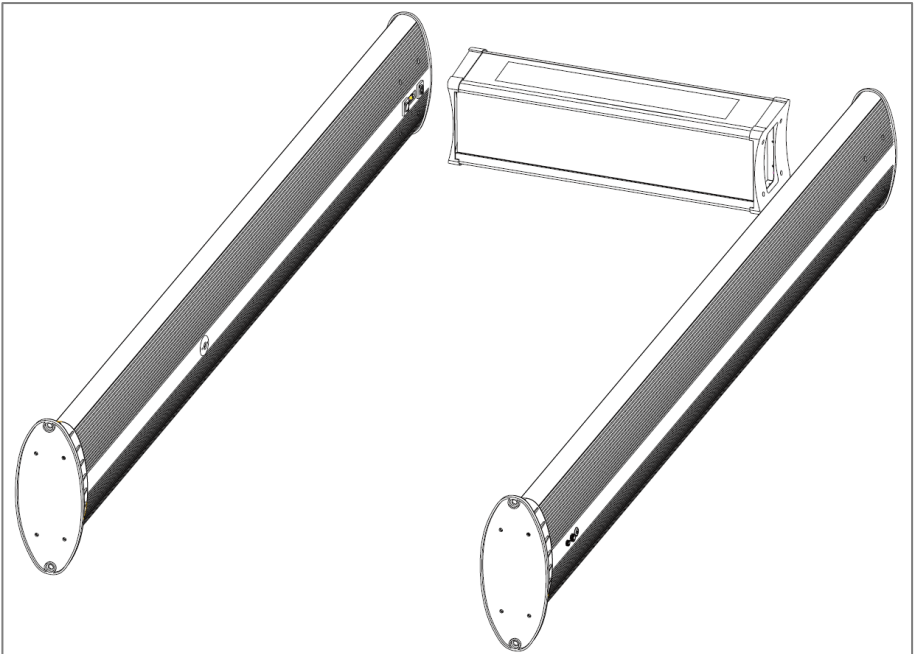

Figure 3-1
**Step 1:** Open the package, and then place the left and right door panels and the main box on the ground in the direction shown in figure 3-1 below. Pay attention to distinguish between the left, right and direction of the door panel (the main screen faces downward).